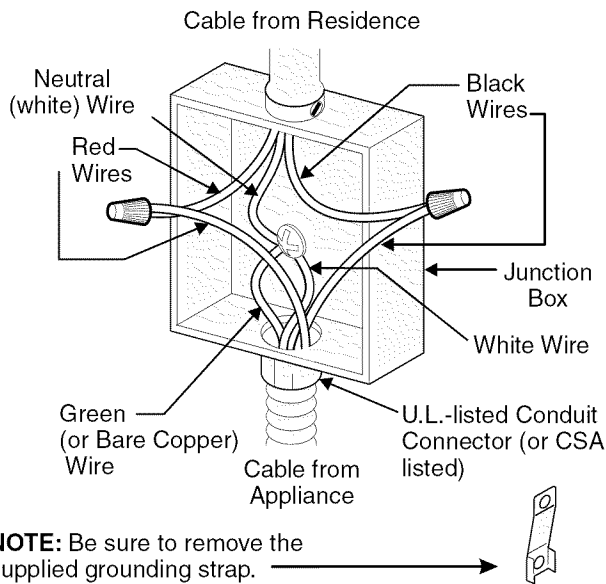

Figure 10
Where local codes permit connecting the appliance-grounding conductor to the neutral (white) wire (see Figure 10):
3. In the circuit breaker, fuse box or junction box (Fig. 10):